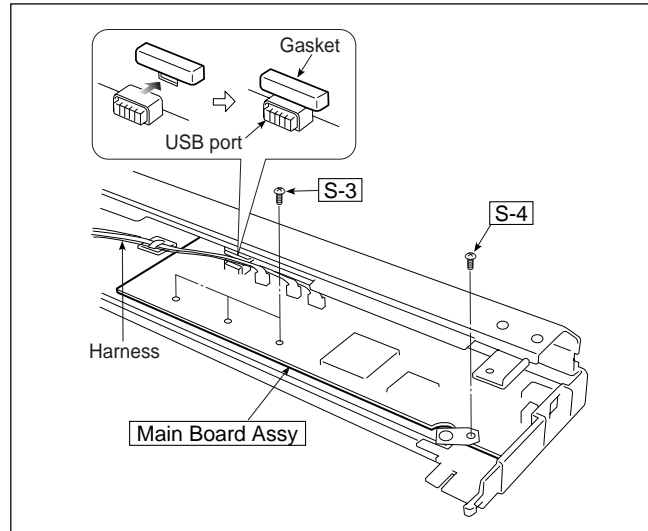

Fig. 7
7) Remove the Main Board Assy. (See Fig. 7.)